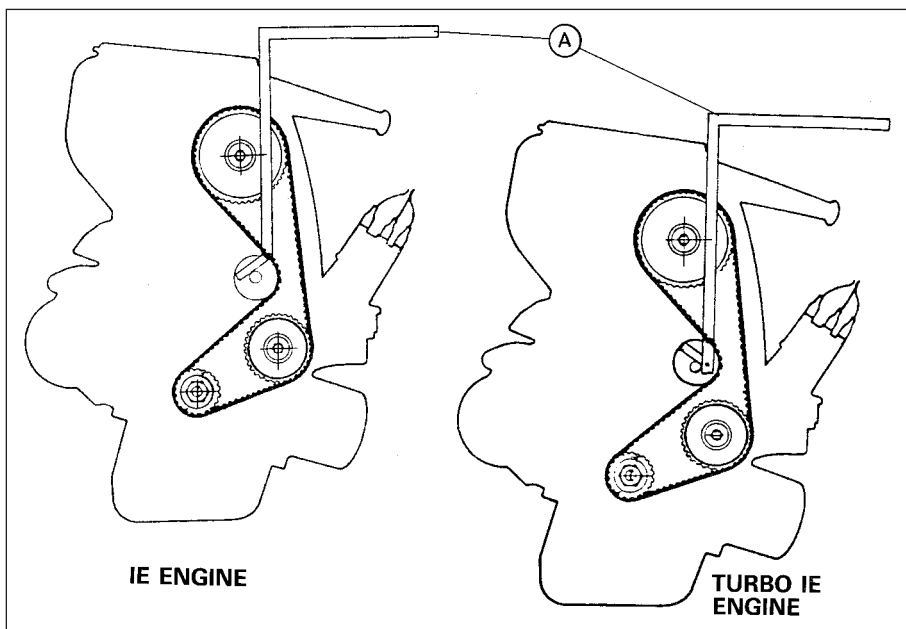

Fig. 13.16 FIAT special tool No. 1860745100 (A) for timing belt adjustment shown fitted to the tensioner pulley - 1372 cc ie and Turbo ie engines (Sec 7B)
**62** Assemble the special tools and fit them to the belt tensioner pulley as shown in Fig. 13.16. When fitted, the tool rod must be as vertical as possible and it is important to note that no sliding weights must be attached to tool No. 1860745100.